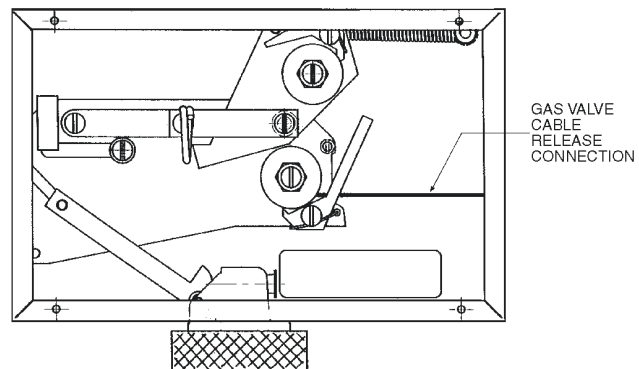

Figure 4-19. Gas Valve Line Termination.
The gas valve line can now be put into a set position by applying tension to the gas valve line. This is accomplished by using a 1/2" hex wrench on the gas valve ratchet wheel. The ratchet wheel will be ratcheted in a clockwise direction until the gas valve is fully open. See Instruction Sheet, Part No. 550571, included in gas valve shipping assembly, for detailed information. Secure the gas valve cover plate to the gas valve box with the four (4) screws provided. The gas valve line is now in a set position. See **Figure 4-19**.